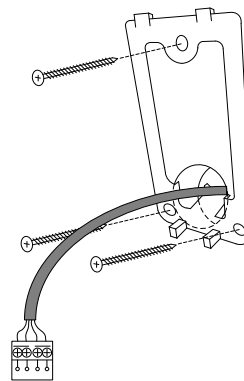

Fig. 4 – Secure wall plate
3. Insert the large tab on the bottom of the Wall Plate into the $\frac{3}{4}$ in/19mm hole and secure to the wall using the three screws provided (Fig. 4).